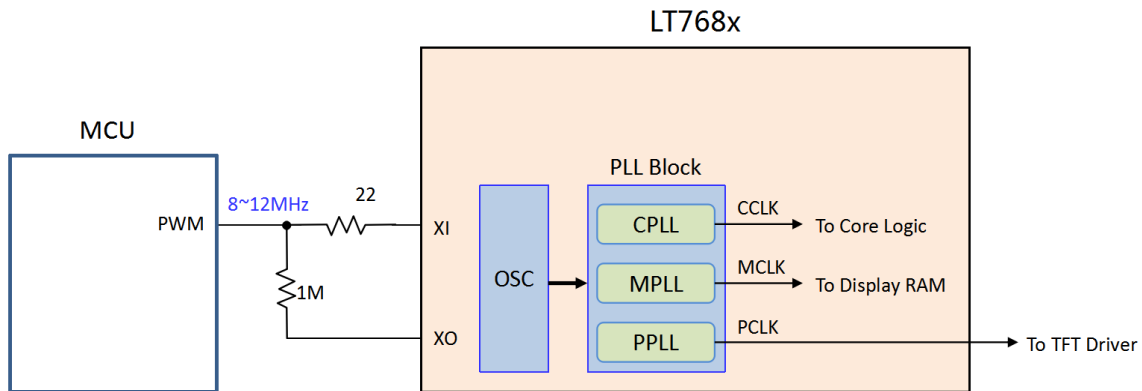
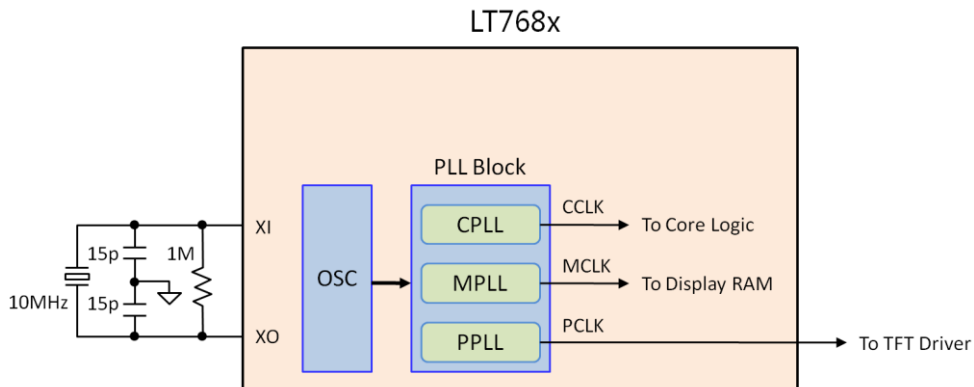

Figure 1: LT768x Clock Circuit - 1
Figure 2: LT768x Clock Circuit - 2
1. LT768x clock input can use the MCU's PWM output (Figure 1), the active crystal, or the quartz crystal (Figure 2, typically 10MHz). Because MCU usually have multiple channels of PWM outputs, it is recommended to provide one channel for LT768x, which can save the cost, too. The shorter the clock signal line, the better, and try to avoid other signal lines. If you want to use a quartz crystal, it is recommended to use a four-pin 3225 package 10M crystal, and the 15pF capacitor on the crystal 2 end does not need to be soldered.